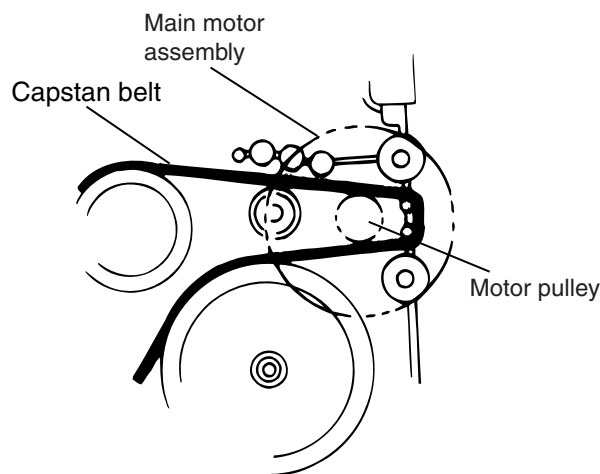

Fig. 5
2. While raising the capstan motor, remove the capstan belts from the motor pulley. (See Fig. 5)